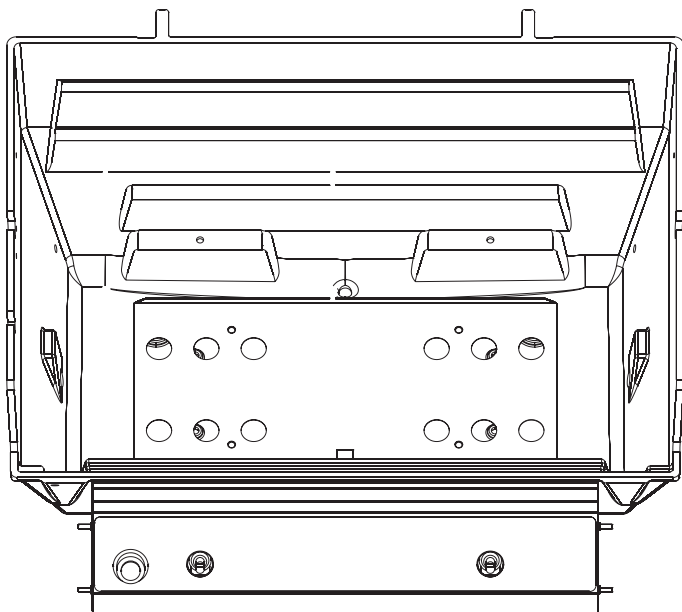

Figure 24
2. Place radiation shield (flange side up) onto four raised bosses located on the interior bottom of the grill. **See Figure 24.**